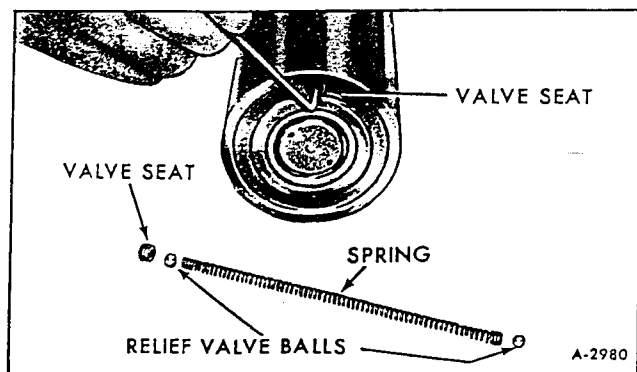

Figure 27 – Removing Valve Seat
6. Remove remaining reversing spring from piston. Remove valve seat using a 3/16-inch Allen wrench (fig. 27).
8. Position relief valve spring and one relief valve ball into the valve bore. Use a 3/16-inch Allen wrench to install one of the valve seats (fig. 27).